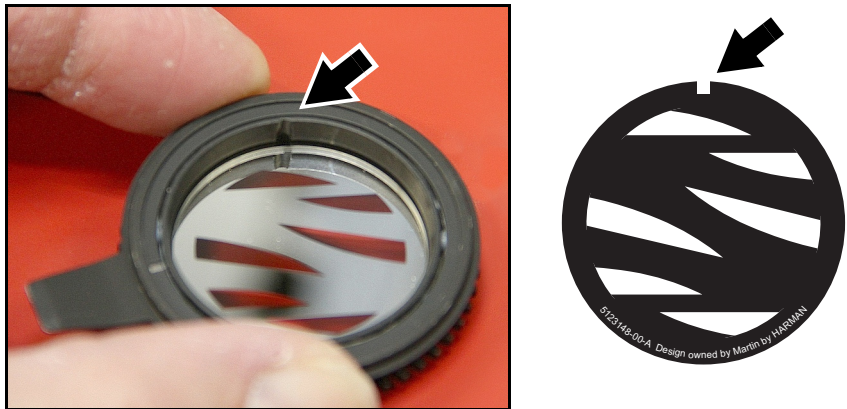

Figure 21: Gobo alignment marks
- The shiny side of the gobo must face towards the spring in the goboholder as shown in Figure 21 so that it will face towards the LED light source. The white side of the gobo must face away from the spring.
See Figure 21 (Gobo Wheel 1 shown). Note the position of the alignment marks (arrowed) on goboholders and gobos. Install gobos with the alignment marks next to each other.
3. Holding the new gobo by its edges, insert it into the goboholder with the alignment marks on gobo and goboholder oriented correctly. On Gobo Wheel 1 the shiny side must face upwards as shown in Figure 21. On Gobo Wheel 3 the shiny side must face downwards. Check that the gobo is fully seated in the holder.